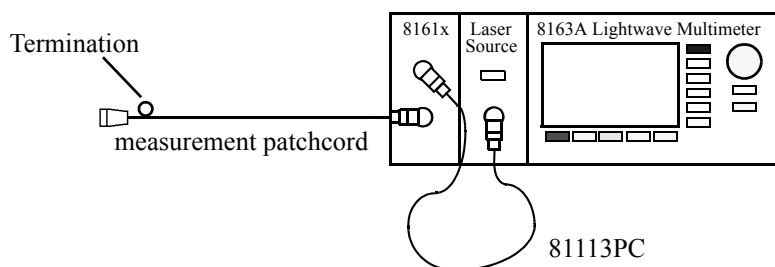

Figure 22 Measuring the Termination Parameter - External Source
- 1 Making sure all the connectors are clean, set up the instrument as shown in Figure 22